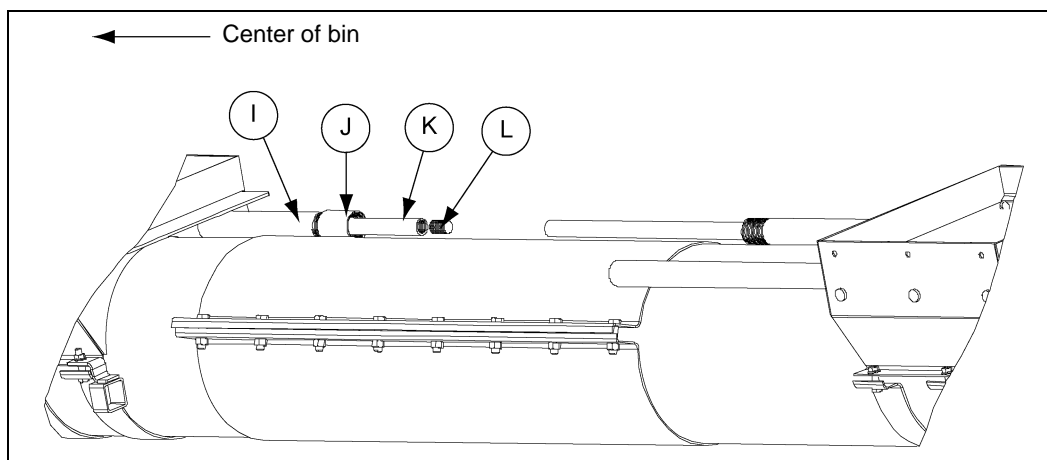

Figure 4L
- Thread the 1" external control pipe coupler (J) onto the intermediate control rod. Also thread the 1/2" internal control pipe coupler (L) onto the centerwell control rod (K). (See Figure 4L.)